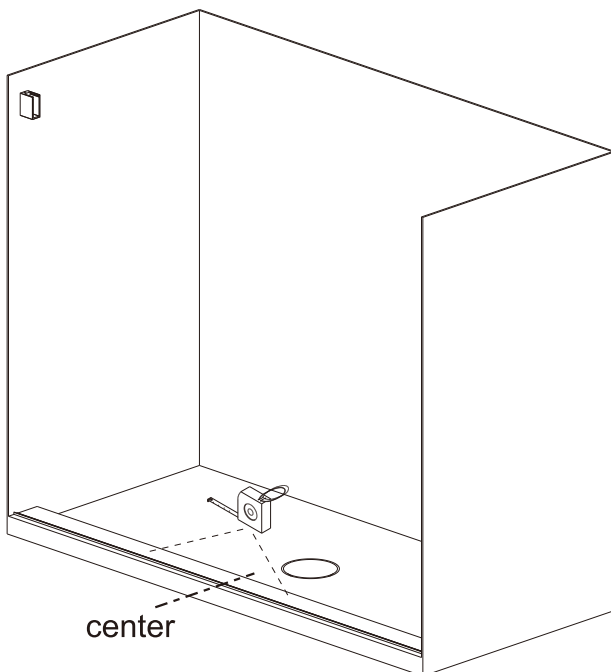

Fig 9
2. Measure across the width of the threshold to locate and mark the center (Fig 9).